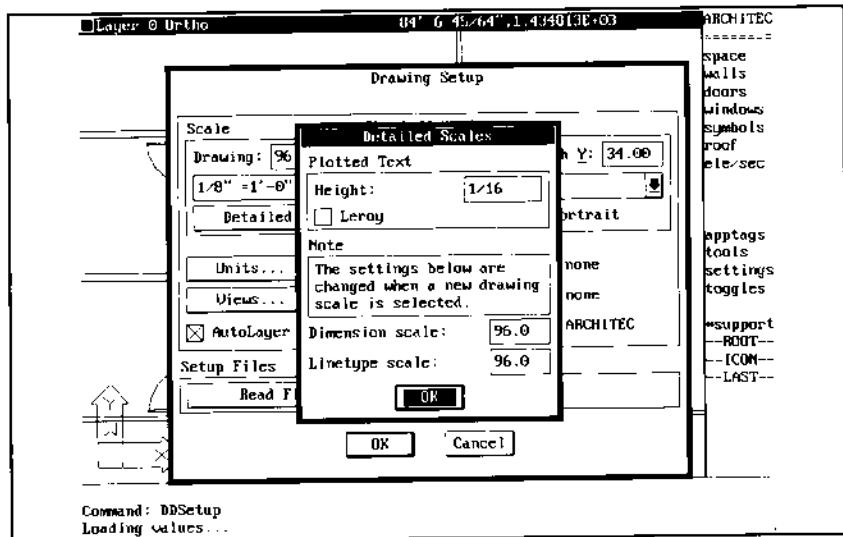

Figure 54.
6. Enter the value 1/16 in the Height: edit box as shown in Figure 54, then pick OK to close each dialog box.